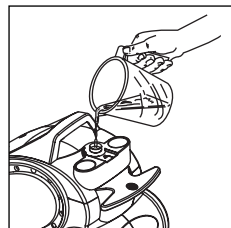

fig. 2
- Pour the water into the tank, taking care not to exceed the top notch on the water level indicator (fig. 2).